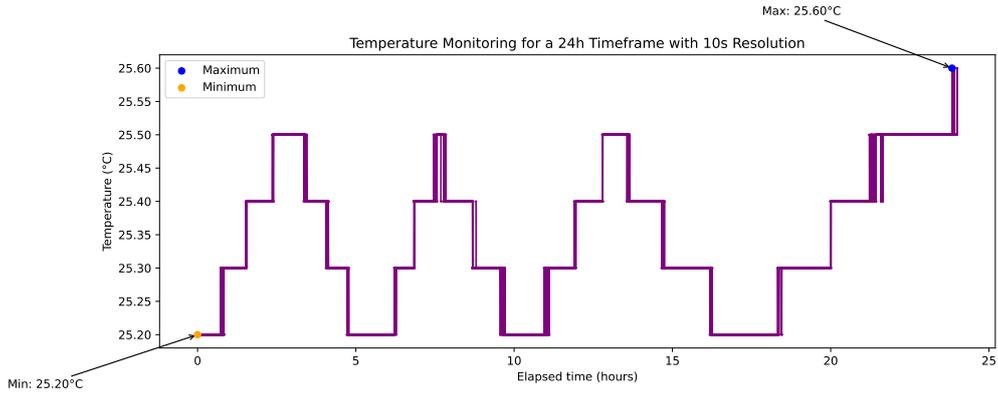

Figure S4: Temperature Monitoring of a 24-hour timeframe recorded at a resolution of 10 seconds
- Fig. S4 shows the temperature monitoring of a 24-hour timeframe.